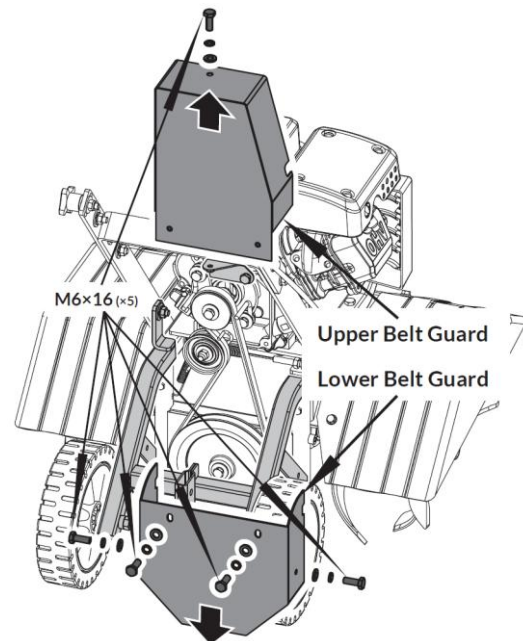

Figure 27
2. Remove the four Bolts, Flat Washers and Lock Washers in the Lower Belt Guard using a 10mm Wrench and remove the Guard (**Figure 27**).